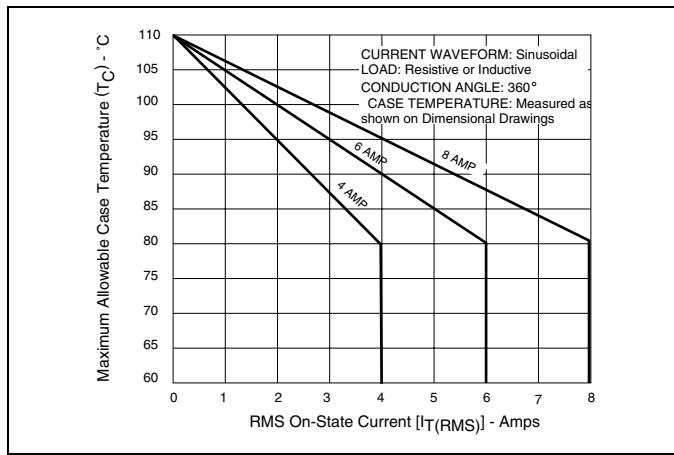

Figure 1.1 Maximum Allowable Case Temperature vs On-State Current
- (5) See Figure 1.1 for maximum allowable case temperature at maximum rated current.
- (6) Pulse width  $\leq 10\mu s$ .
- (7)  $T_C = T_J$  for test conditions in off-state.